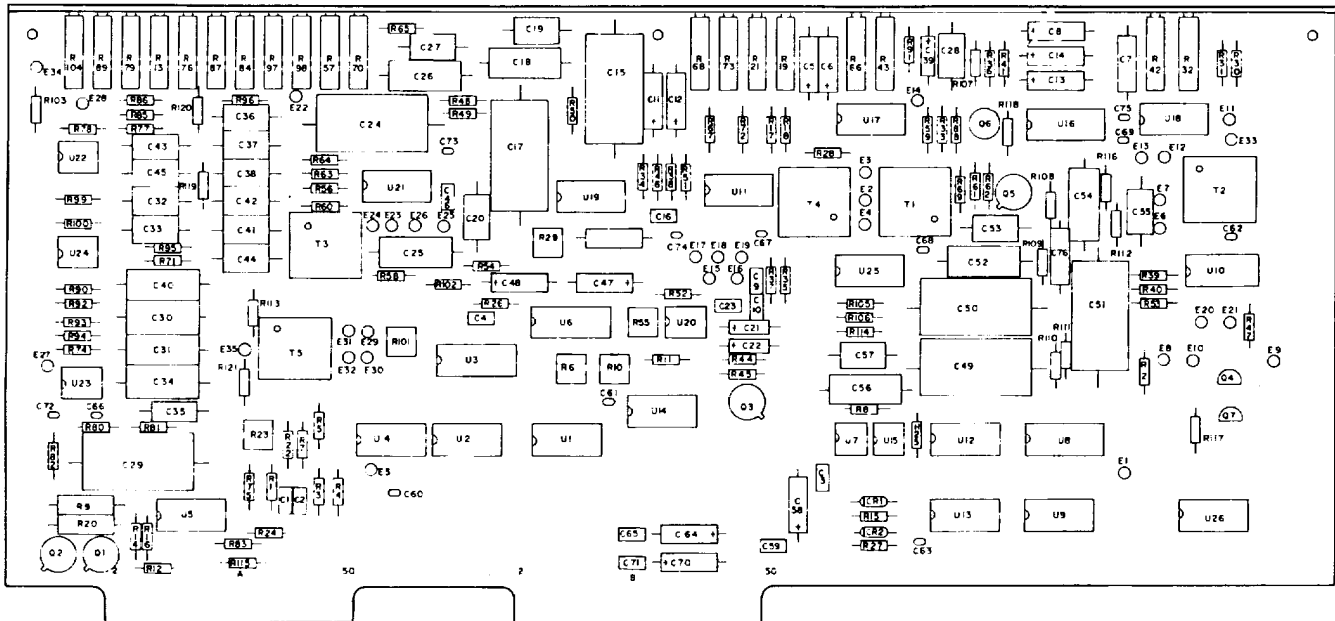

Figure 8-3. Operations Voice Buffer Circuit Card Assembly, 4A2 Parts Location Diagram
c. Operation Voice Buffer Circuit Card Assembly (4A2) Disassembly. This circuit card assembly should be removed only when servicing or component replacement is required. To remove this circuit card assembly, grasp both edges of the card and pull up. Further disassembly should be limited to removal of parts for repair or replacement. Refer to figure 8-3 for location of components to be replaced.